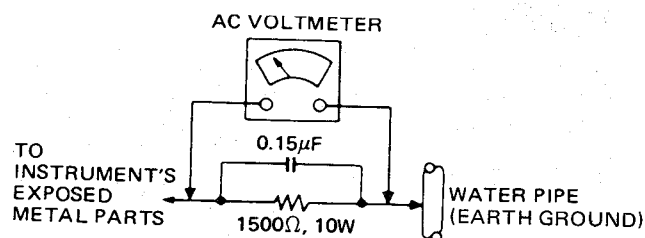

Fig. 1
2. Connect a 1500 ohm, 10 watt resistor, paralleled by a 0.15 μ F capacitor between each exposed metallic part and a good earth ground like a water pipe as shown in Fig. 1.